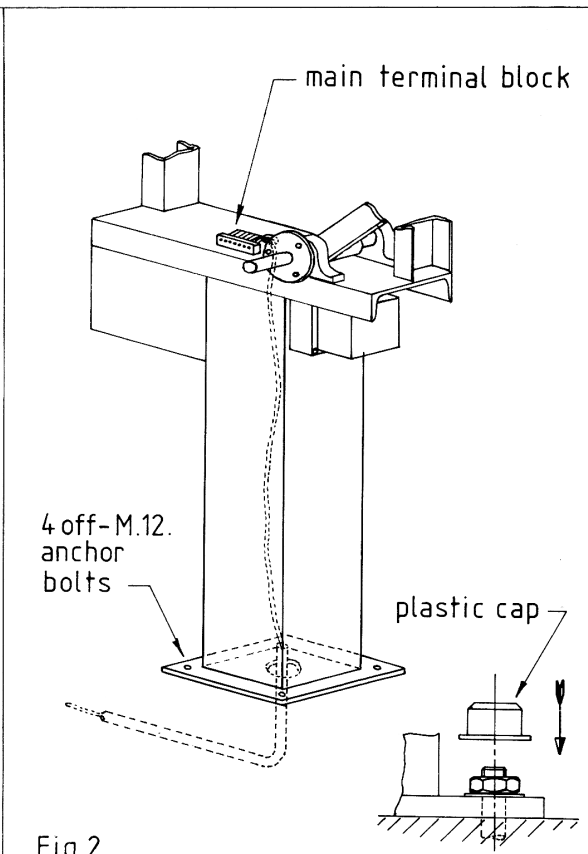

Fig. 2.
3. Drill 4 holes into the plinth to accept 12mm anchor bolts, and bolt barrier securely to its foundation. (Fig 2.)
4. With mains power isolated, connect supply and control cables to main terminal block (see connection drawing DP-1000-54) and fit plastic caps over anchor bolt heads. (Fig 2.)